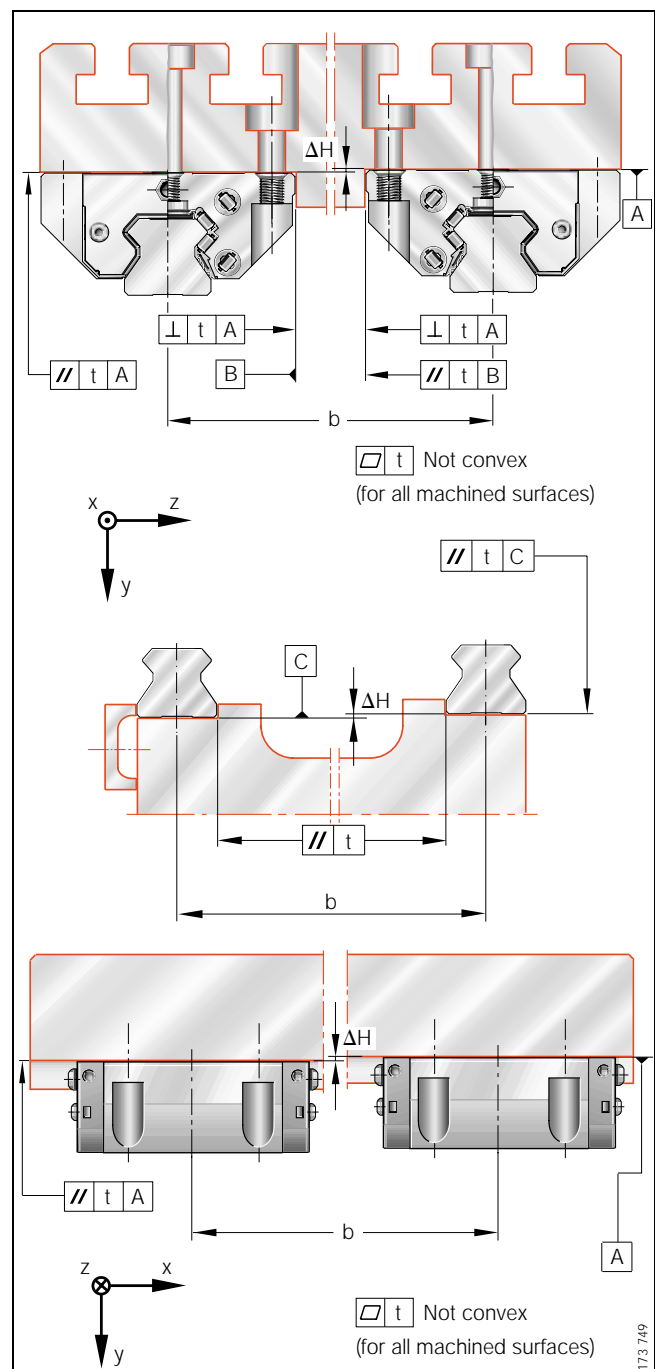

Figure 6 · Tolerances of mounting surfaces and parallelism of mounted guideways
- The tolerances in Figure 6 and Table 5 must be adhered to
The permissible values for  $\Delta H$  (Figure 6) are given by the formula below. If larger deviations are present, please consult INA.
For guideways arranged parallel to each other, the parallelism value  $t$  in Figure 6 and Table 5 should be adhered to.